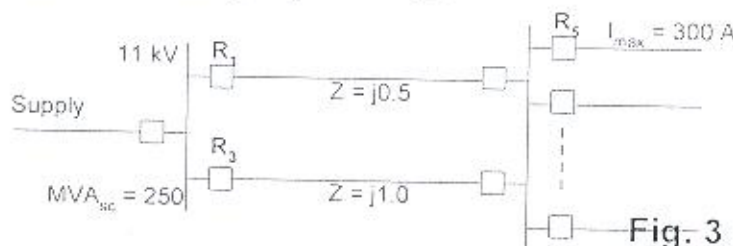
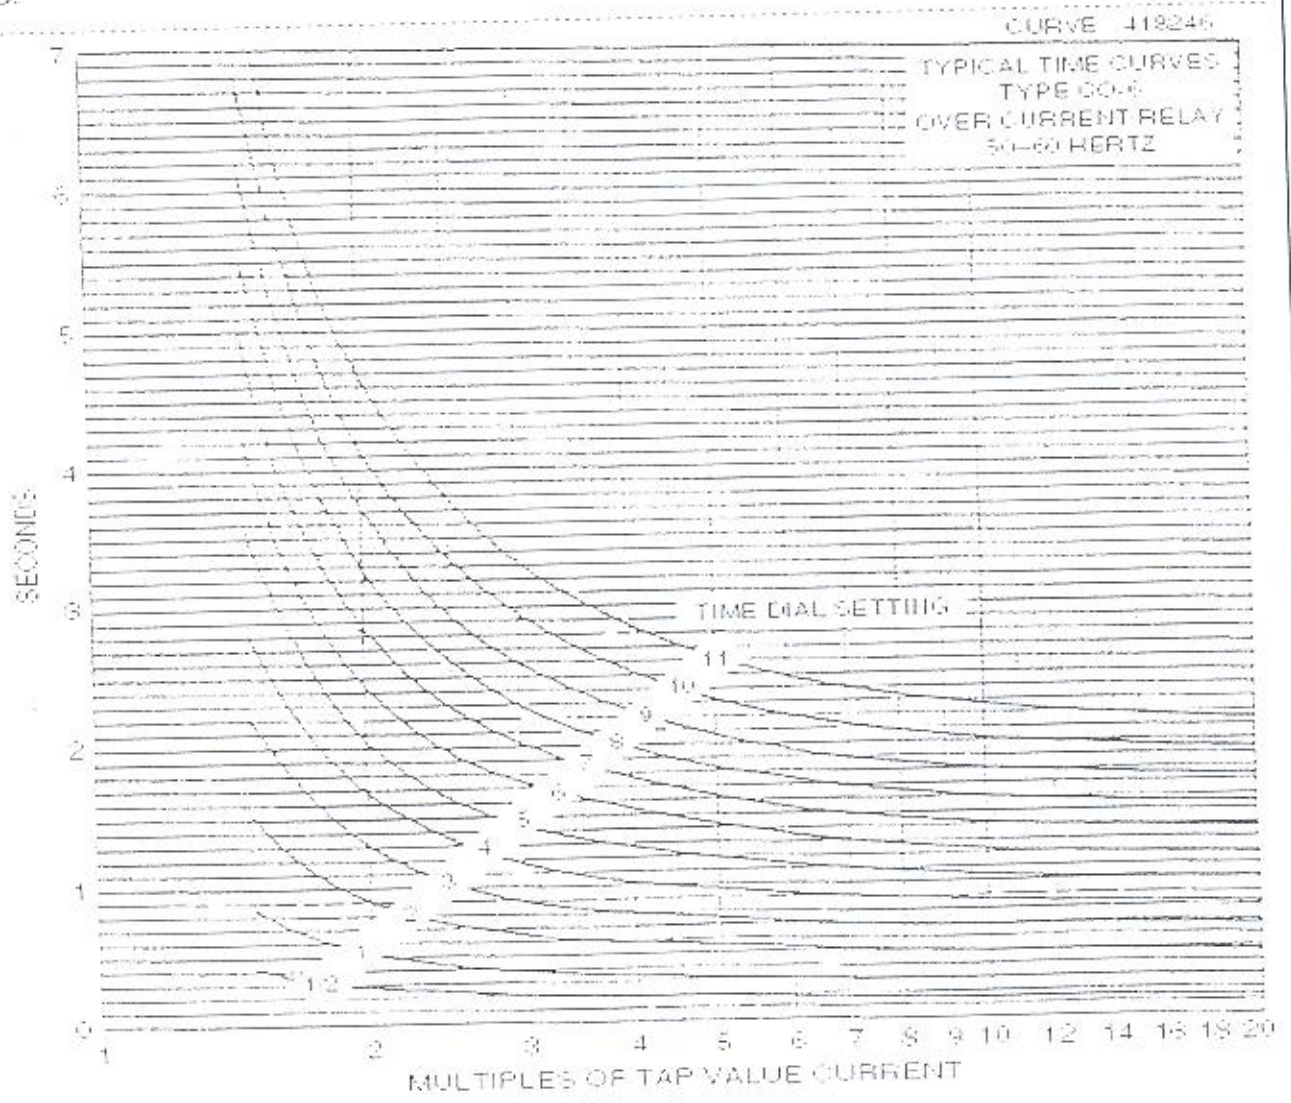

Fig. 3
Fig. 5.
**Problem number (3)**
b) For the system given in Fig. 3 determine the CT ratios  $R_1$ ,  $R_2$  and  $R_3$  relaying points, if the maximum load delivered from the supply is 25 MVA. Available CT turns ratios are 300/5, 400/5, 500/5, 600/5, 1000/5, 2000/5 and 3000/5. If the relays are of the type inverse overcurrent relay, determine the **plug and time setting** of these relays for correct coordination. Assume that  $R_3$  is not required to coordinate with any down stream devices. The characteristic of the inverse overcurrent relay is given in Fig. 5.